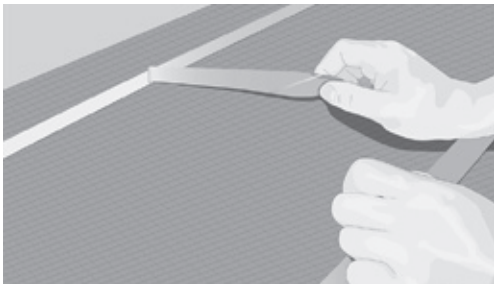

Fig. 6. Lay out double-sided tape and remove the backing
10. Fix the cable on the double-sided tape removing the liner as the cable layout proceeds (Fig. 6 and 7).